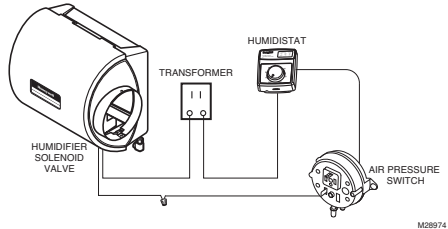

Fig. 14. Wiring the controls.
7. Connect the low-voltage wires to the leads and replace the H8908 case. See Fig. 14.